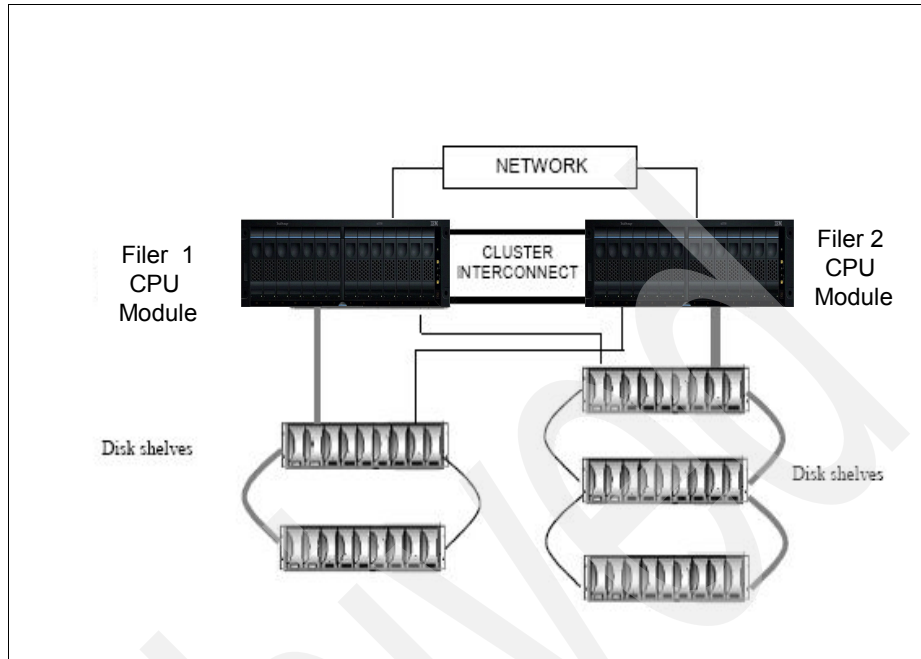

Figure 3-7 Basic cluster configuration
The basics of an IBM System Storage N series cluster consists of two nodes that can takeover or failover their resources or services to the associated counterpart nodes. This functionality assumes that each node can access all resources, which that means both nodes must have access to all disks physically (cabling) and logically, as shown in Figure 3-7 on page 109. The N3700 Model A20 and N3300/3600 combines both cluster nodes in one shelf and does not require interconnect cables.
- ▶ When you halt one node and allow takeover, the partner node continues to serve data for the halted node while you upgrade the node you halted, or in the case of a cluster failover event, the partner node automatically takes over, as illustrated in Figure 3-7.